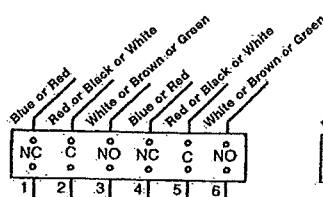

Fig 2
- Two Single pole changeover switches acting in unison - see figure 2.